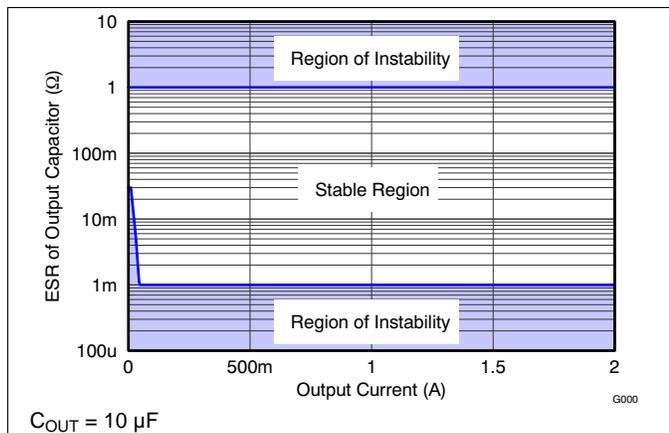
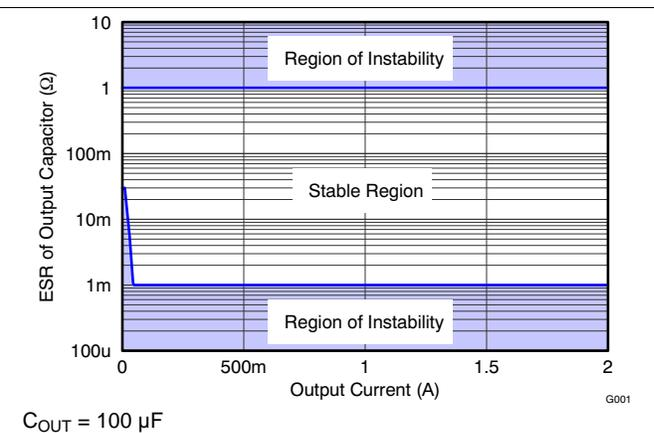

Figure 1. Stability Curve
Figure 2. Stability Curve
- (1) See Figure 1 and Figure 2 for additional output capacitor ESR requirements.
- (2) For output capacitors larger than 47 µF, a feedforward capacitor of at least 220 pF must be used.